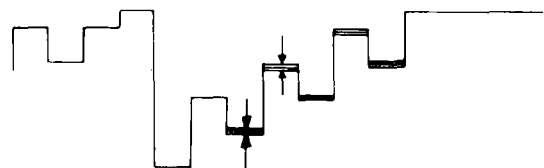

Figure 4-2. PL504 Alignment
- 5) After changing the PATTERN into the PAL COLOUR BAR signal, adjust PL504 so that the fluctuation may be minimum and a straight line as shown in figure 4-2.